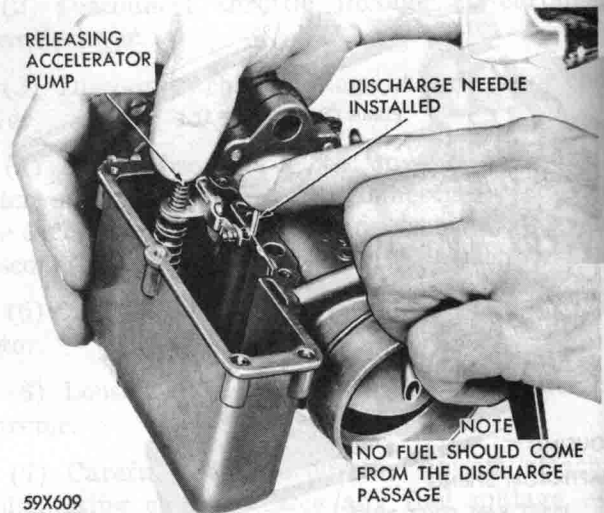
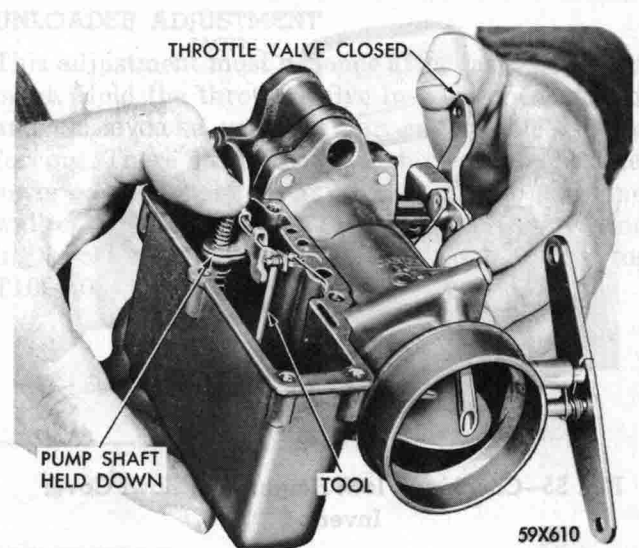

Fig. 52—Holding Needle on its seat and Releasing Pressure on Pump Shaft
Fig. 53—Checking Metering Rod Adjustment
(5) Test the pump outlet needle for leakage by dropping needle, point down, in discharge passage and holding needle on its seat with a small rod and releasing pressure on pump shaft. No fuel should come from discharge passage (Fig. 52). Should the inlet leak in Step 4 above:
(6) Remove the pump assembly from fuel bowl and disassemble.
(7) Remove the inlet ball plug (Tool T109-43).
(8) Remove the ball and inspect ball and also ball seat in housing. The ball should be smooth and free from scratches or broken surface. The seat may be re-formed by placing a good ball on the seat, then tapping the ball lightly with a soft bronze or brass rod.
(9) Install the metering jet.
(10) Install the bowl cover gasket on bowl.
(11) Install the pump lifter link and connector link.
(12) Install the throttle arm on throttle shaft, guiding the pump connector link through the arm. Tighten attaching screw.
(13) Check the metering rod adjustment (Fig. 53). Seat the tapered end of gauge, Tool T109-104 in metering rod jet. Place the metering rod arm assembly in position on pump lifter link and pump shaft. Install the small spring and retainer on pump shaft. With one hand, hold throttle valve tightly closed. Push pump shaft down to hold metering rod arm in contact with pump link on pump shaft. The metering rod support pin should be in tight contact with top of gauge, Tool T109-104 (Fig. 52). Use bending Tool T109-22 to adjust the metering rod arm (section on pump shaft).
(14) Remove gauge tool and metering rod arm, install metering rod on arm.
(15) Install the arm assembly over pump link and shaft.
(16) Install the small spring and retainer on pump shaft.
(17) Install the inlet needle seat in bowl cover.